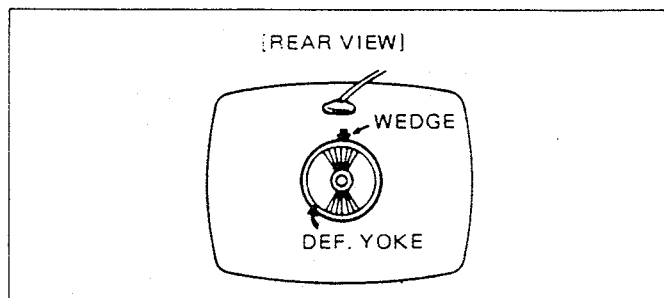

Fig. 9
2. Adjust the convergence around the edges of the picture tube by tilting the yoke, up-down and left-right, and temporarily install one wedge at the top of the yoke. (Fig. 9,10,11)